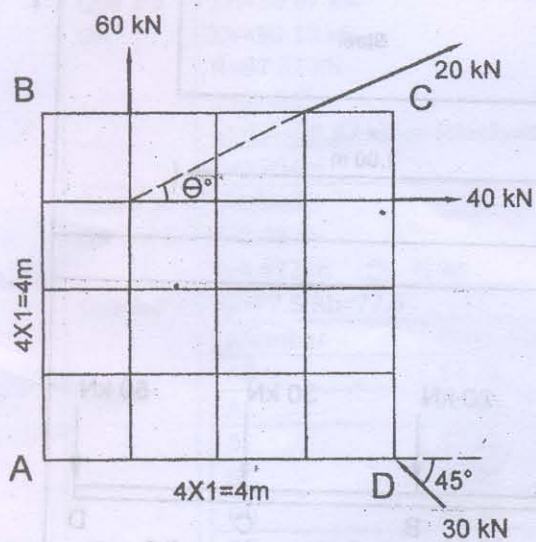

Fig. 3
- Que. 2.a Find out the resultant of forces shown in Fig.3 with respect to point A. 07